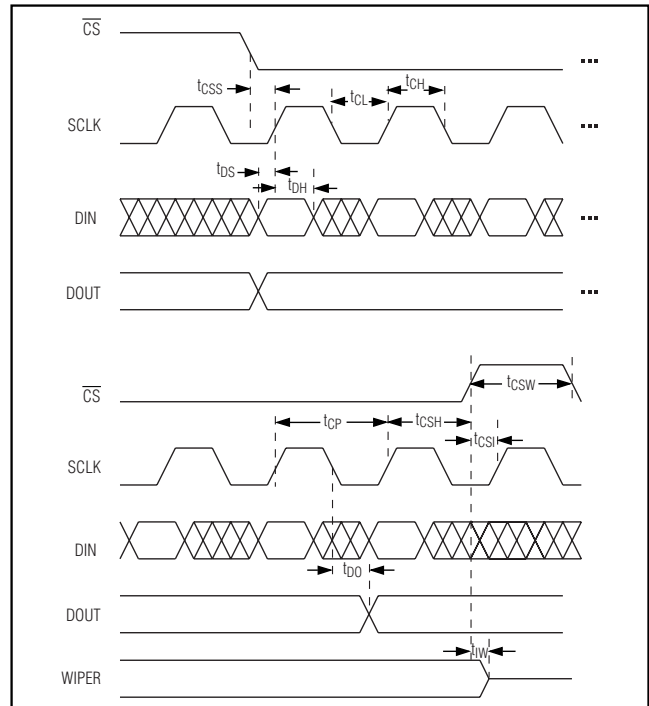

Figure 1. Serial Timing Diagram
| TIMING CHARACTERISTICS (Figure 1)     |             |  |                   |     |     |         |
The data bits control the position of the wiper (Table 7). A logic low on the chip-select input (CS) enables the device's serial interface. A logic high on CS disables the interface control circuitry. See Figure 1 for serial-interface timing description.